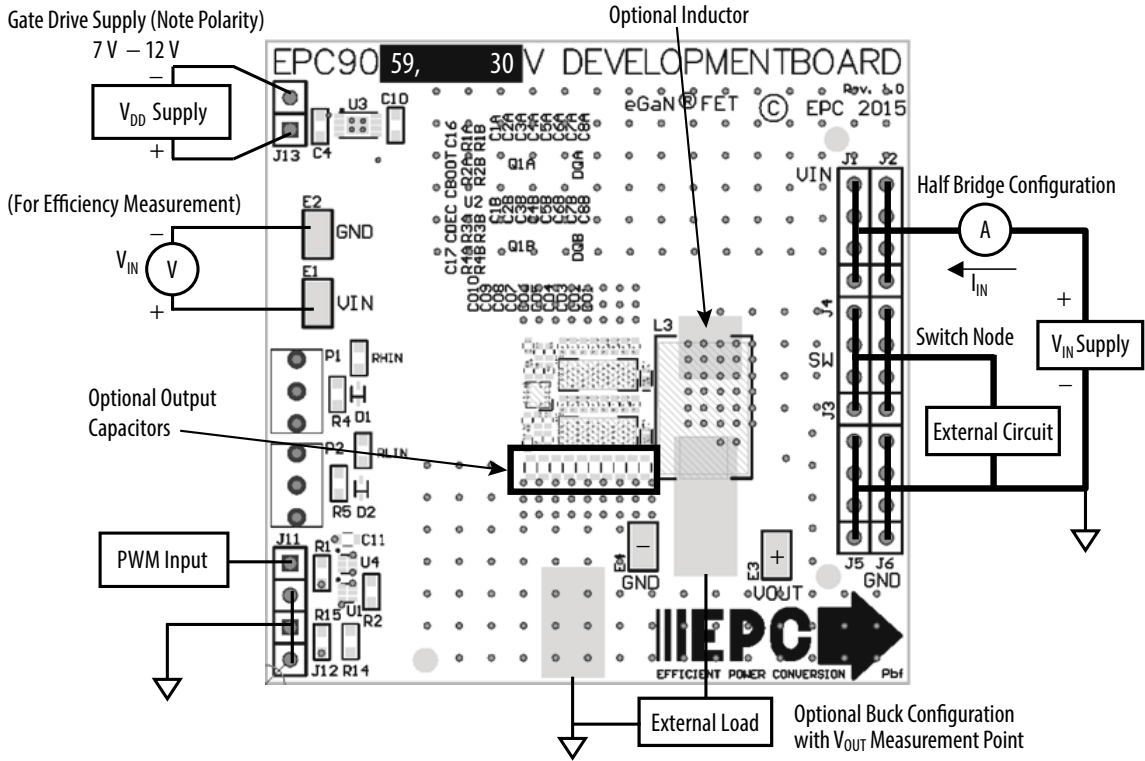

Figure 2: Proper Connection and Measurement Setup
Evaluation board EPC9059 is easy to set up to evaluate the performance of two EPC2100 eGaN monolithic half bridge ICs operated in parallel. Refer to Figure 2 for proper connect and measurement setup and follow the procedure below:
2. With power off, connect the switch node of the half bridge OUT (J3, J4) to your circuit as required (half bridge configuration). The EPC9059 features an optional buck converter configuration, as shown in figure 2, with unpopulated footprints for an output inductor and output capacitors.